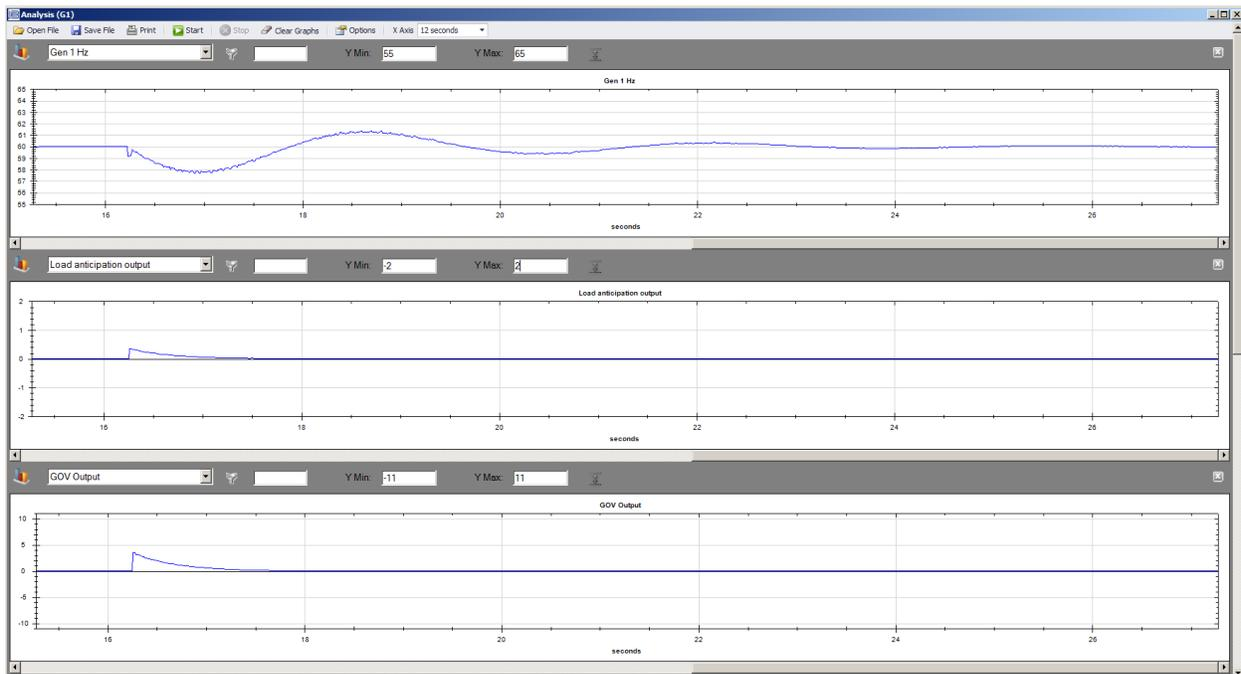
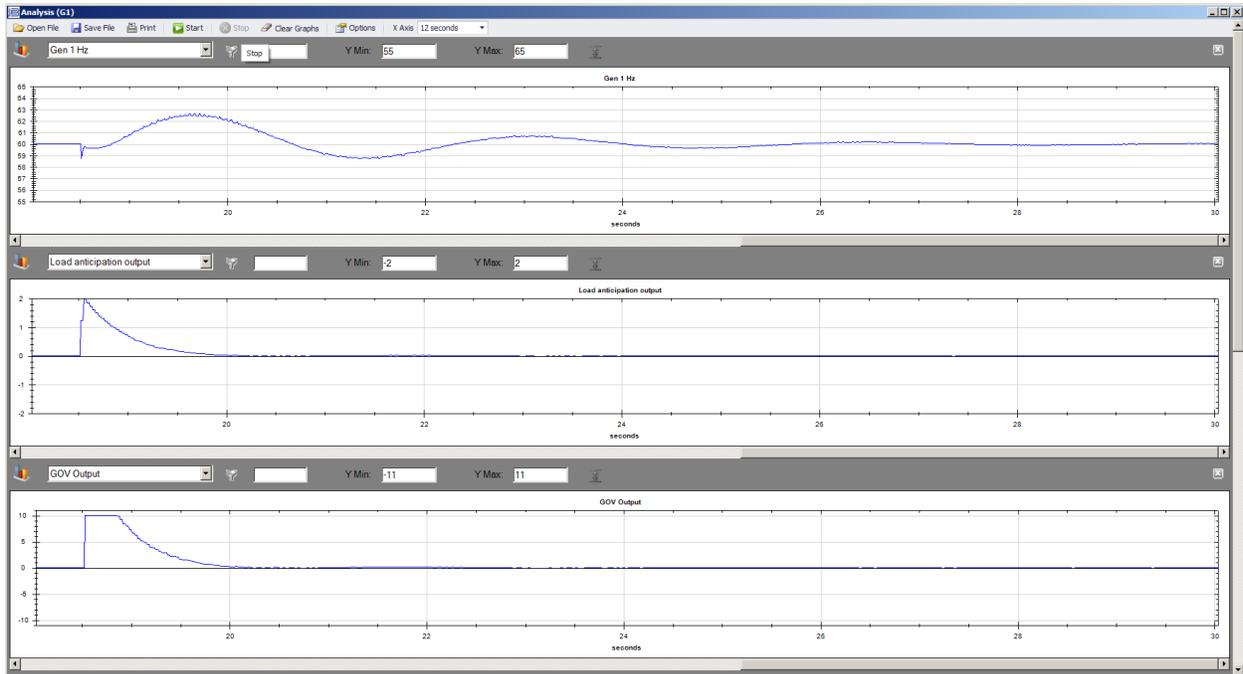
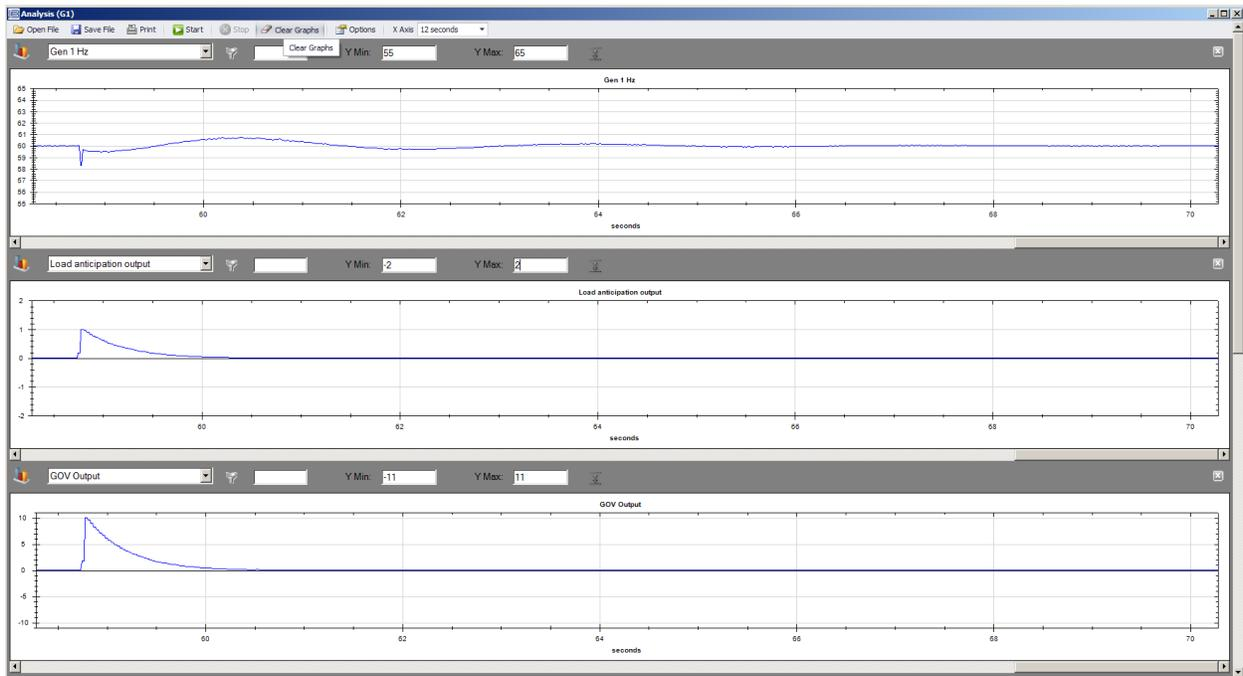
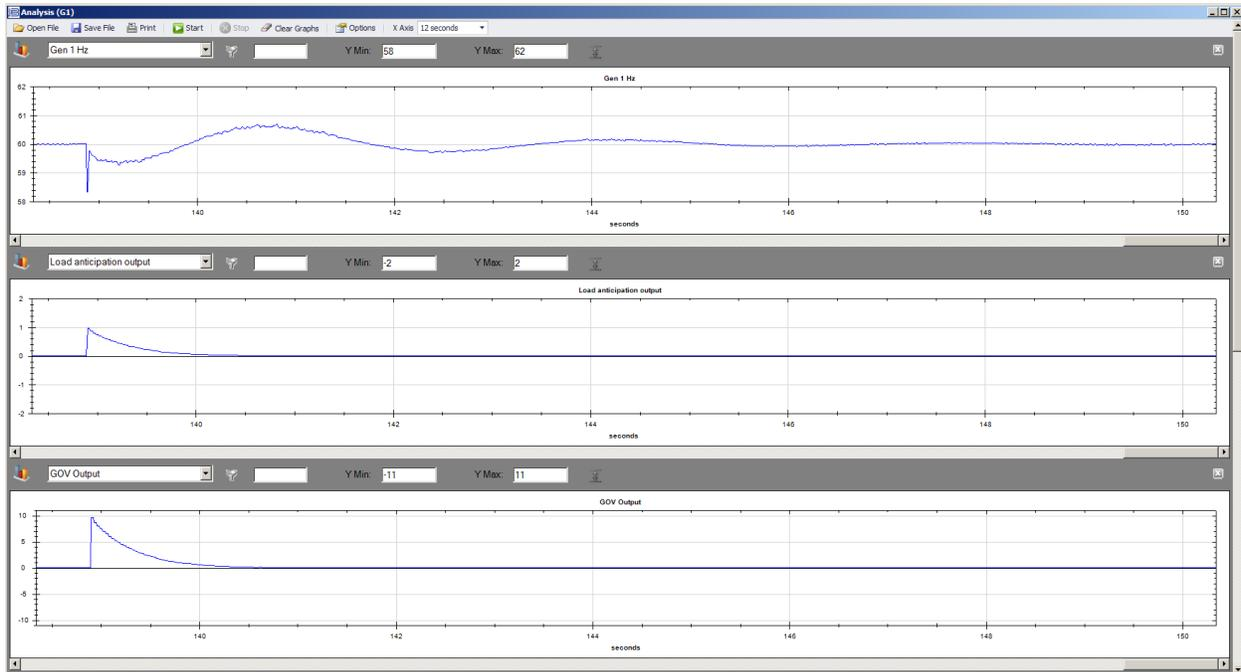

Figure 22-4. K_{Ia} Too Low – Frequency Recovery Improved with ~2 Hz Deviation
Figure 22-5. K_i Gain Too High, GOV Output Saturated, Frequency Overshoots on Recovery.
Figure 22-6. Load Anticipation Output Clipped.
Figure 22-7. Good Response. < 0.5Hz Deviation on Load Application with Minimal Overshoot.
4. Set the Analysis screen to plot Gen Hz, Load Anticipation Output, and GOV Output. Apply load and measure output frequency response. Increase K_{Ia} Gain, apply load, and measure output frequency response again. Repeat until output frequency response improves upon load application. If frequency overshoots on recovery, reduce K_{Ia} Gain. If GOV Output begins clipping, do not increase K_{Ia} Gain much further. If Load Anticipation Output begins clipping, but GOV Output is not clipping, increase Min/Max limit. Figure 22-4 illustrates the plot with a K_{Ia} Gain that is too low. Frequency recovery has improved, but it still has approximately 2 Hz deviation. Figure 22-5 illustrates the plot with a K_{Ia} Gain that is too high which causes the GOV Output signal to clip and frequency overshoot to be too high. Figure 22-6 illustrates the plot with a clipped Load Anticipation Output signal. Increase Max and Min Limits. Figure 22-7 illustrates the plot with a good response with less than 0.5 Hz deviation on load application with minimum overshoot.